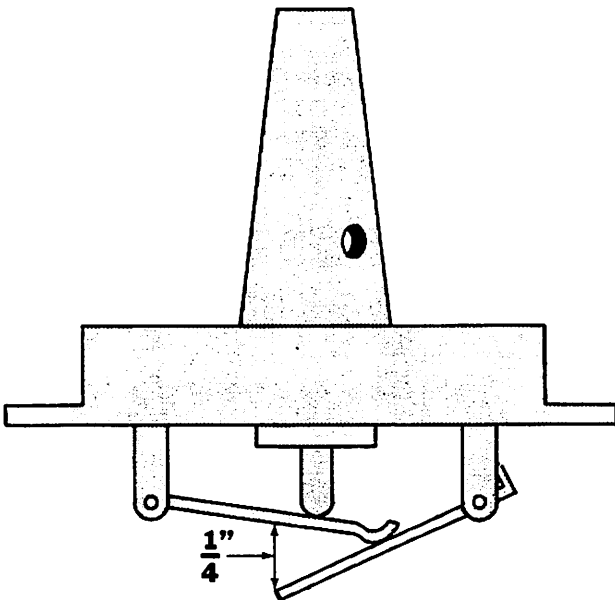

Figure 3. Clearance between Levers
7. Hold float bowl cover upright. (Figure 3) Distance between levers is $1/4$ " . Bend tab on secondary lever as required.